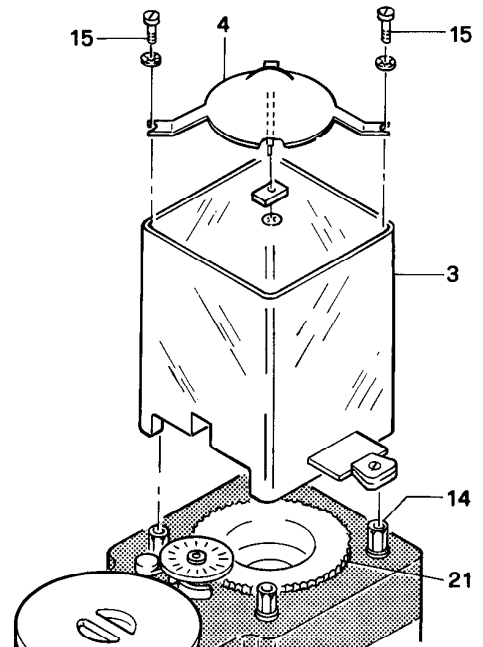

Fig.9
- Remove screws 15 Fig.9, grinders protection 4 Fig.9 and hopper container 3 Fig.8-9;